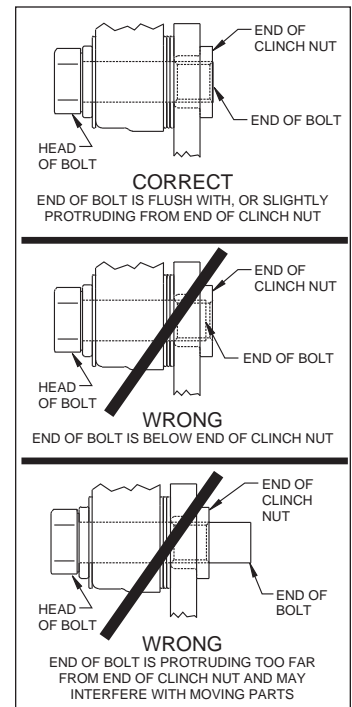

Figure 4. Clinch Nut Engagement Diagram
**Assembly Instructions** (numbers in parenthesis refer to the parts list, and Figure 1 on the preceding pages): **CAUTION:** All mounting bolts must fully engage clinch nuts. Be sure to check that all bolts are either flush or protruding through flanged side of clinch nut after shimming, Figure 4.
- **NOTE:** Please reference the caution statement at the beginning of the assembly instructions. Mount the caliper (3) onto the caliper mounting bracket (1) using bolts (5) and washers (4), as shown in Figure 1. Initially place two .035" thick shims (6) on each bolt between the caliper and the bracket, Photo 4. Temporarily tighten the mounting bolts and view the rotor (2) through the top opening of the caliper. The rotor should be centered in the caliper, Photo 5. If not, adjust by adding or subtracting shims between the bracket and the caliper. Always use the same amount of shims on each of the two mounting bolts. **NOTE:** The end of each bolt must be flush with or slightly protruding from the head of the clinch nut, as shown in Figure 4. If necessary place spare shims between washer (4) and caliper